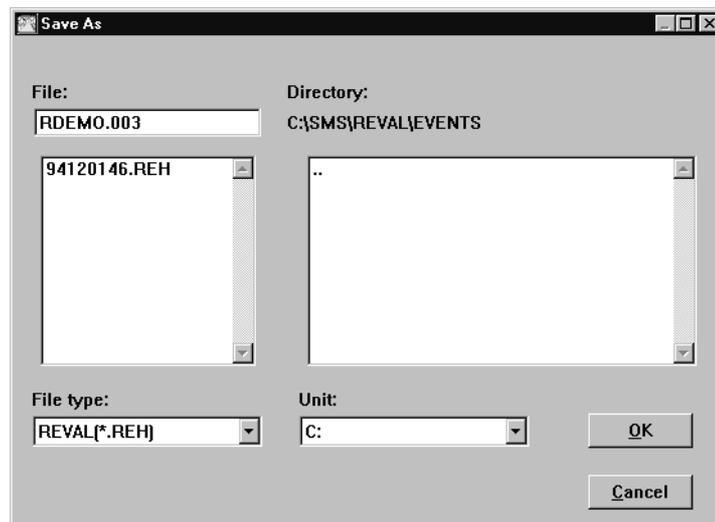

Fig. 20 The Save As dialogue box.
- 1 Select **Save as ...** to save a disturbance in another name, or to perform a converting operation. A **Save As** dialogue box, see Fig. 20, is shown to enable selection on where and how to save the disturbance.